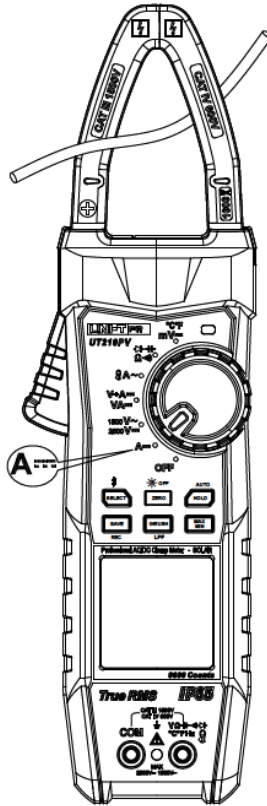

Figure 5
1. Measuring DC current using the clamp jaws (Figure 5)